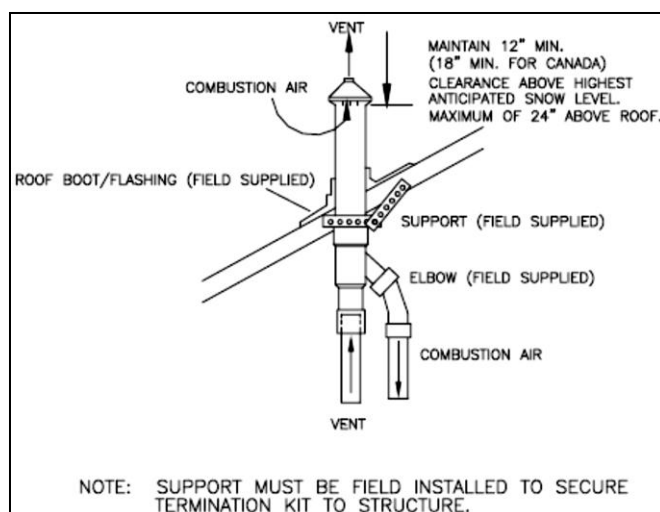

Figure 4 – Roof Installation
5. Secure assembly to roof structure as shown in Fig. 4 using field supplied metal strapping or equivalent support material.
7. Cement air inlet and exhaust vent pipes to concentric vent termination assembly. See Fig. 4 for proper pipe attachment.